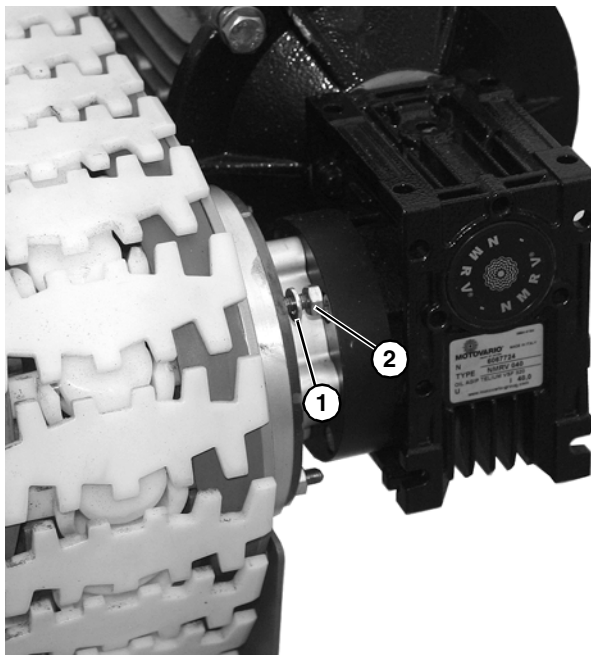

Figure 39
3. Install four washers (Figure 39, item 1) and nuts (Figure 39, item 2) to secure motor to conveyor.